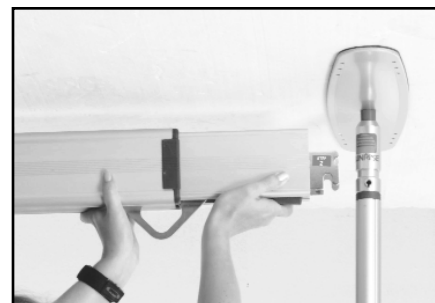

Figure 18
16. Place the end of the rail marked "Step 1" onto one standard post (not the post designated to be the 'pivot' post) (Figure 18). If pins on top of post are not facing in direction desired, place rail onto pins and rotate post to desired direction.
NOTE— Tilt the rail upward (45°) to latch the rail onto the post (Figure 18).
8. Push end of rail to contract the rail and tilt the rail downward (45°). The other end of the rail should easily be released from the post (Figure 18).